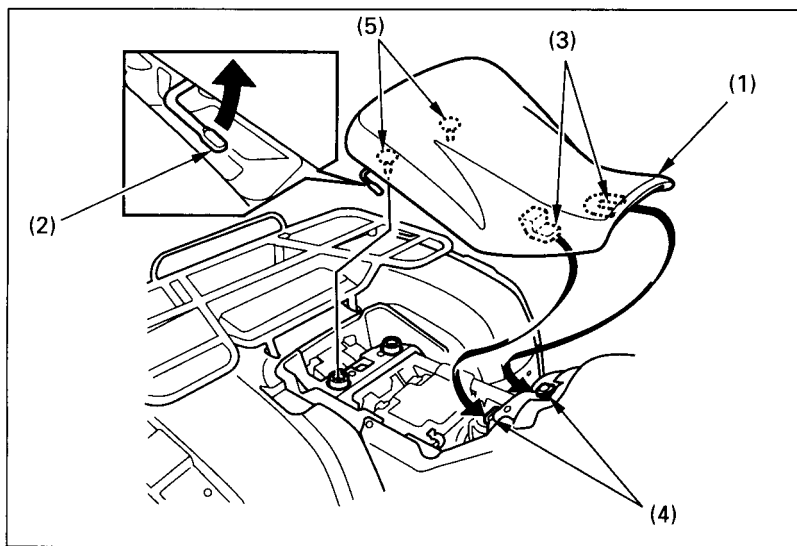

Fig. 4-36
To remove the seat (Fig. 4-36), pull up the seat lock lever (2) at the right side of the seat and lift it up.